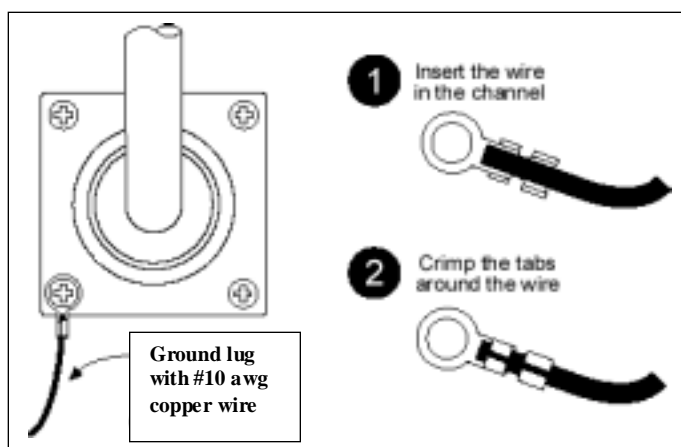

Figure 5-17 Mounting Pole with Ground Lug
6. Attach the grounding wire to the clamp on the grounding rod, reference Figure 5-17. If necessary, use wire staples to secure the grounding wire to the outside wall.